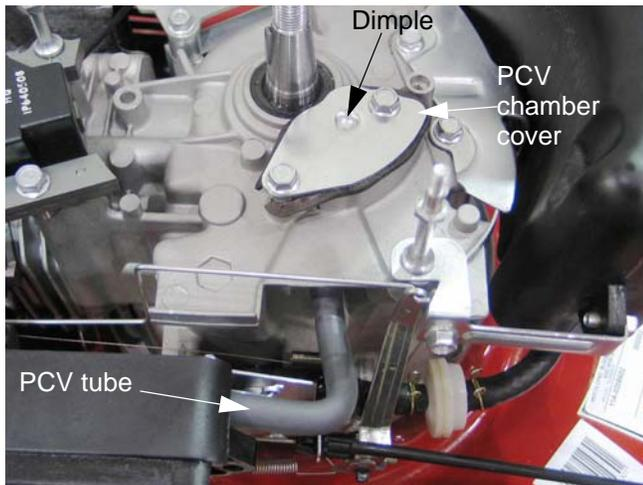

Figure 5.16
9. Inspect the PCV tubing for cracks, brittleness or signs of leaking. Replace the PCV tube if any are found. See Figure 5.16.